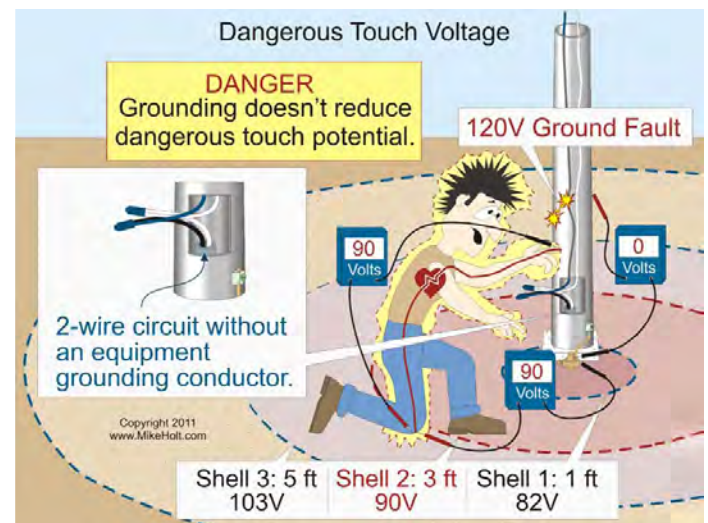

Figure 250–11
(3) Equipment Bonding. Metal parts of electrical raceways, cables, enclosures, and equipment must be connected to the supply source via the effective ground-fault current path. **Figures 250–12 and 250–13**